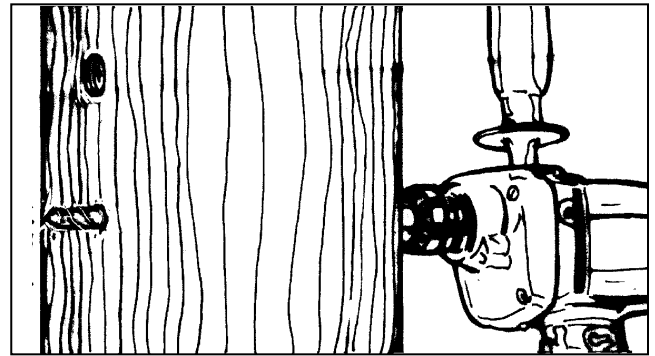

Figure 2. Drill the holes for the switch-mounting bracket.
STEP 1. Drill two $\frac{1}{16}$ -inch diameter holes through the utility pole as shown at the desired height for mounting the switch. See Figure 2. Refer to the erection drawing.